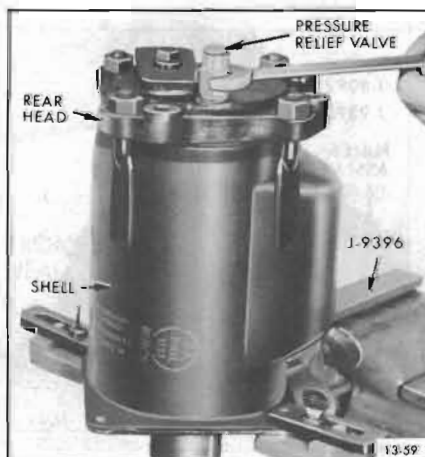

Figure 13-59—Compressor Installed Holding Fixture
5. Reinstall compressor in Holding Fixture (J-9396) positioned as shown in Figure 13-59.